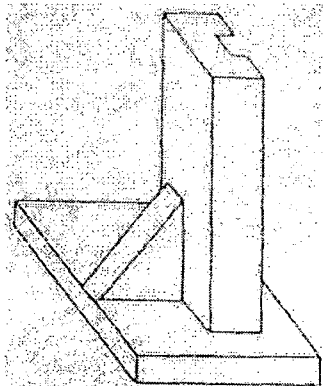

Fig. 1
11. (i) How do you construct the Fig.1 using CSG and B-rep solid modelling techniques. Explain (10)